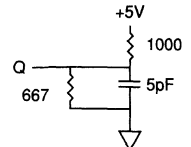

Fig. 2 OUTPUT LOAD EQUIVALENT
6. ^tHZCS, ^tHZOE, and ^tHZWE are specified with CL = 5pF as in Fig. 2. Transition is measured ±50mV from steady state voltage.